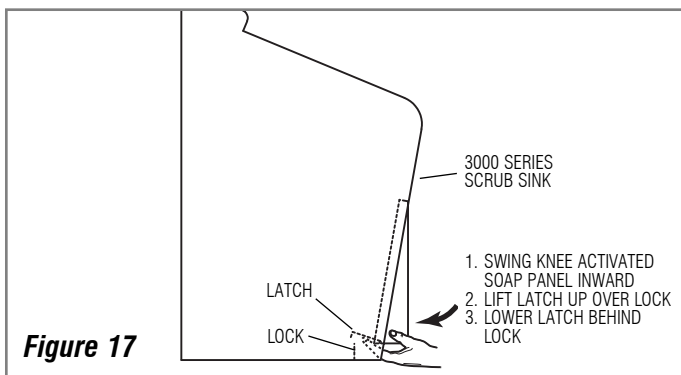

Figure 17
Step 15 — Secure Knee Activated Soap Panel (3000 Series Sinks Only) (Figure 17)
Lower the Knee Activated Soap Panel, then lift the Latch under the Knee Activated Soap Panel over and behind the Lock. Lower the Latch to secure the Knee Activated Soap Panel. Refer to Figure 17. For double and triple station sinks, secure all remaining Panels as instructed above.